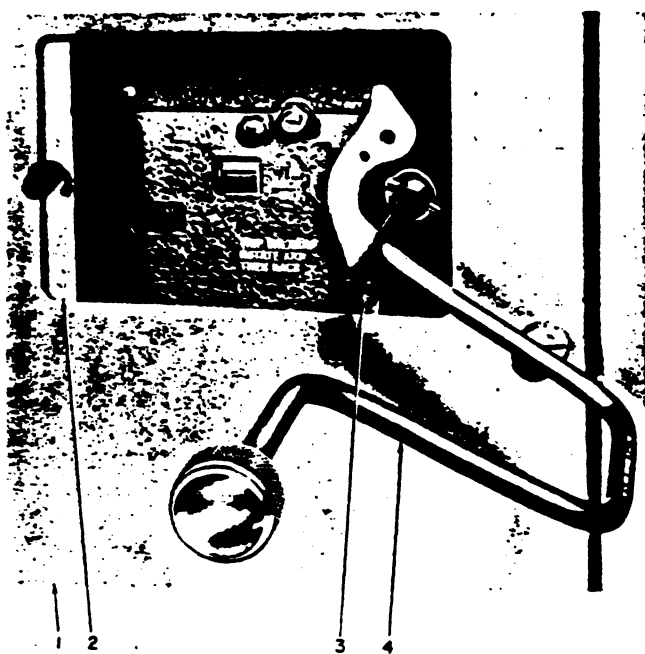

Fig. 3 — Method of Racking Circuit Breaker
Engage racking crank (4, Fig. 3) and push racking unlocking lever (3) to left, then rotate racking crank counterclockwise only until resistance to motion is felt. (DO NOT FORCE.)
To rack circuit breaker to "TEST" position, push racking unlocking lever (3, Fig. 3) to left, rotate racking crank approximately $\frac{1}{4}$ turn clockwise, then release unlocking lever. Continue cranking until racking mechanism automatically stops at "TEST" position.
NECTED" position, close compartment door (1, Fig. 3) and insert racking crank (4, Fig. 3) through sliding panel (2, Fig. 3).
(See Fig. 3)